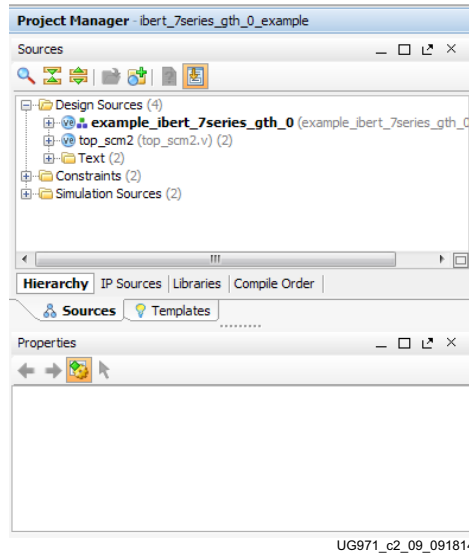

Figure 2-9: Sources after Running add_scm2.tcl
- In the new window, select **Tools Run Tcl Script**. In the Run Script window, navigate to **add_scm2.tcl** in the extracted files and press **OK**. The SuperClock-2 Module Design Sources and Constraints are automatically added to the example design (Figure 2-9).